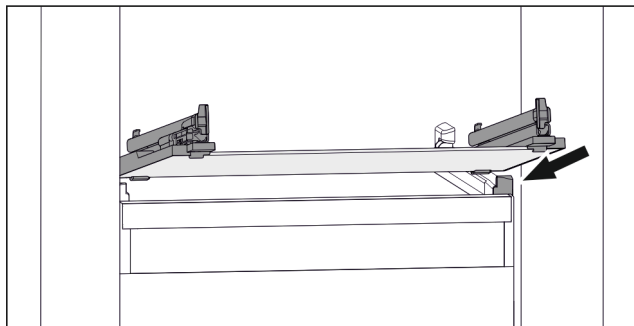

Fig. 88 Example illustration of glass shelf
- Position glass shelf at an angle behind the stoppers. (see Fig. 88)